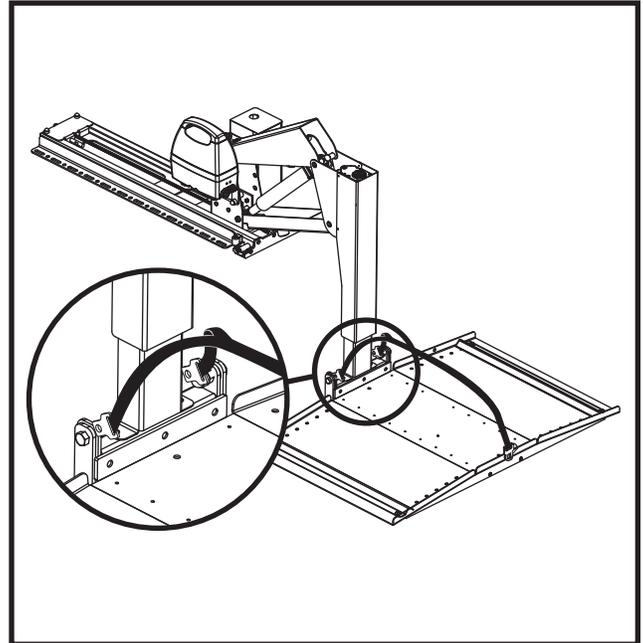

Figure 8. Platform Adjustment Bolts
2. Remove the device from the platform for easy access to the three adjustment bolts located where the platform connects to the lowering arm. **See figure 8.**